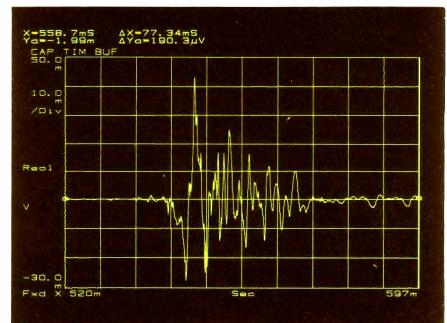

Figure 6-2
- 3. Expand Display** To expand the portion of the waveform in the band select the **X MRKR SCALE** (X-marker band to scale) softkey. The expanded display will be similar to Figure 6-2